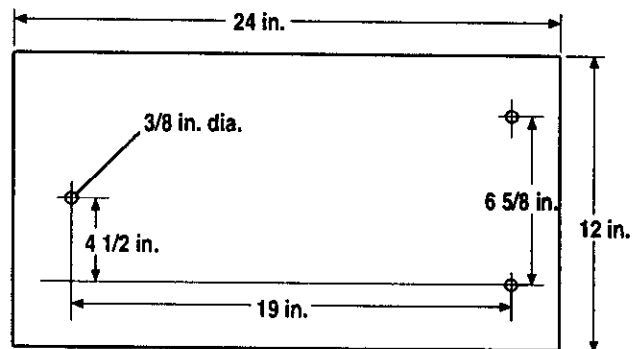

Fig. 6
See Figure 6.
- Mount saw to board using holes in frame as a template for hole pattern or the diagram in Figure 6. Locate and mark the holes where scroll saw is to be mounted.